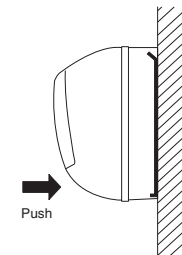

Fig. 3-58
- (1) To install the indoor unit, mount the indoor unit onto the 2 tabs on the upper part of the rear plate.
- (2) Hold down the air discharge outlet and press the lower part of the indoor unit until it clicks to securely fasten to the 2 tabs on the lower part of the rear plate. (Fig. 3-58)